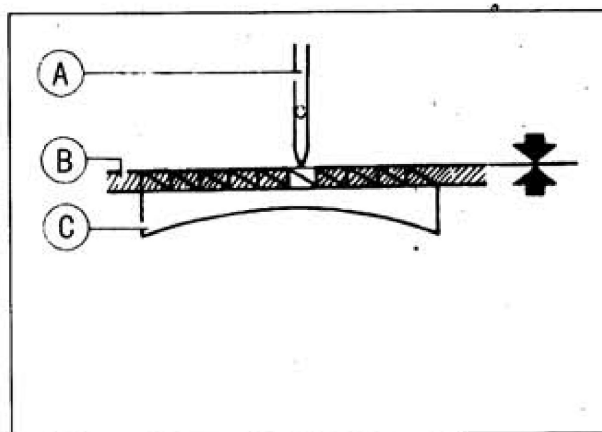

Fig. 26
20. TIME FEED MOTION TO NEEDLE MOTION (Fig.26,27,28)
The standard timing of feed motion to needle motion is that the top of feed Dog (C) is flush with Throat Plate Surface (B) when the point of Needle (A) reaches Throat Plate Surface (B). See Fig.26 .